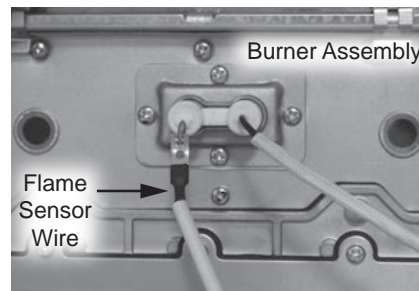

Figure 108 - Removing flame sensor wire
- 5 Locate flame sensor wire attached to burner assembly. Disconnect wire and place aside for easy access to the gas manifold. See Figure 108.
24 Locate the flame sensor previously disconnected from burner assembly in **Step 5**. Connect flame sensor wire. See Figure 108.